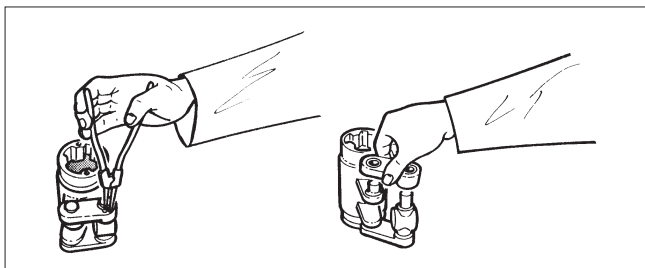

Fig. 16 Dismantling the linkage
- Remove lock rings (36) and support rings (37). See Fig. 16.
- Remove connection arms (4), ring (4A) and check the condition of the bearings (20, 21).
- Remove lever arm bearings (23), O-rings (17) and the grounding ring (3A).
- Install the grounding ring (3A), the lever bearings (23) and the O-rings (17). The grounding rings (3A and 4A) are needed to meet the ATEX requirements.
- Assemble the linkage and install in the housing. See Figure 16 for the correct position. Note the ring (4A).
- Apply sealant, e.g. Loctite 225, to the bearing unit screw (29) thread and tighten the screw as in Table 2.
- Install new pressure outlet valve (58) on to housing cover.
- Remove lever arm bearings (23) and O-rings (17) and the grounding ring (3A).
- Apply sealant, e.g. Loctite 225, to bearing unit screw (29) thread and tighten the screw as in Table 2.
- Install new cylinder base O-ring (19). Install the cylinder.